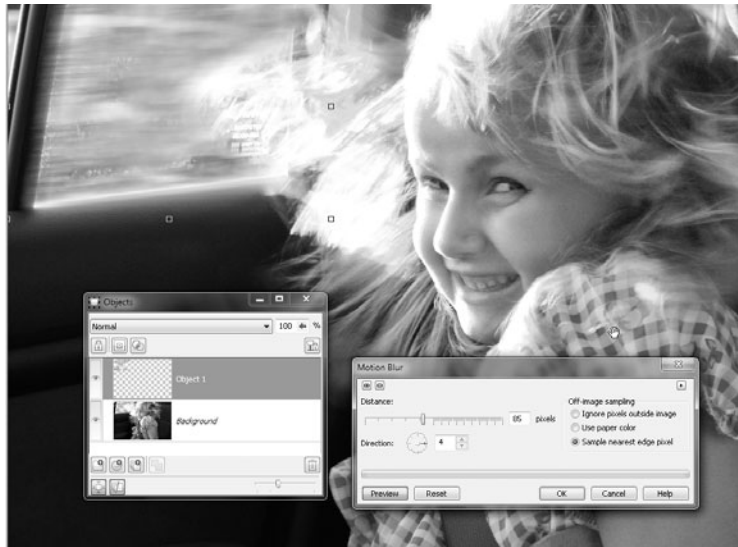

FIGURE 26-10 Set the Direction to match the horizontal angle of the object, the direction in which the car is traveling.
2. Drag the Direction icon to a value of nearly 0 degrees, or type **0** in the num box. You have some leeway here with Distance; depending on your own artistic taste, you can drag the Distance slider anywhere between 65 and 140 pixels. Try previewing at 65 first; drag the slider and then click Preview. Try some more powerful distance settings, and when you're pleased with the effect, click OK to apply the blur. See Figure 26-10.